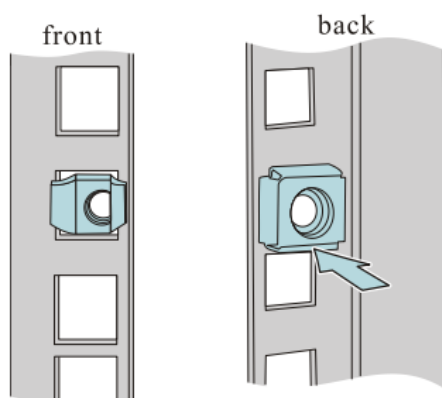

Figure 23: Installing the floating nuts
- ☐ Install the floating nuts in the marked positions. See Figure 23.